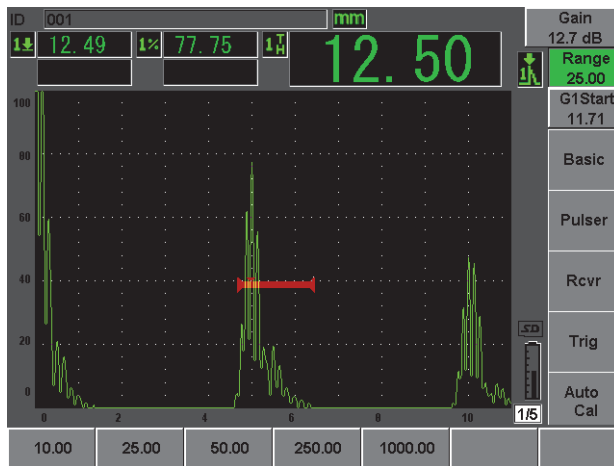

Figure 2-17 The Range value
16. Press [**RANGE**], and then adjust the screen range to the desired setting (see Figure 2-17 on page 50).